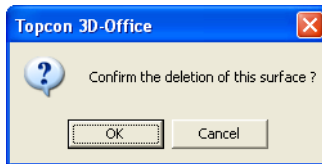

Figure 5-12. Delete TIN Surface
2. Click **OK** to confirm the deletion (Figure 5-12).